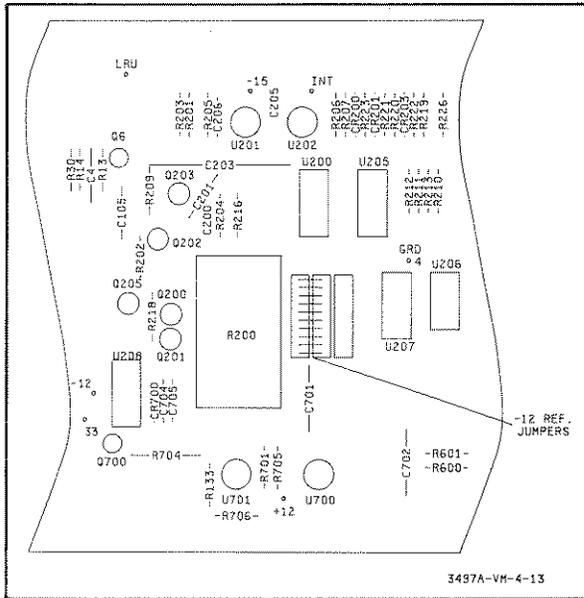
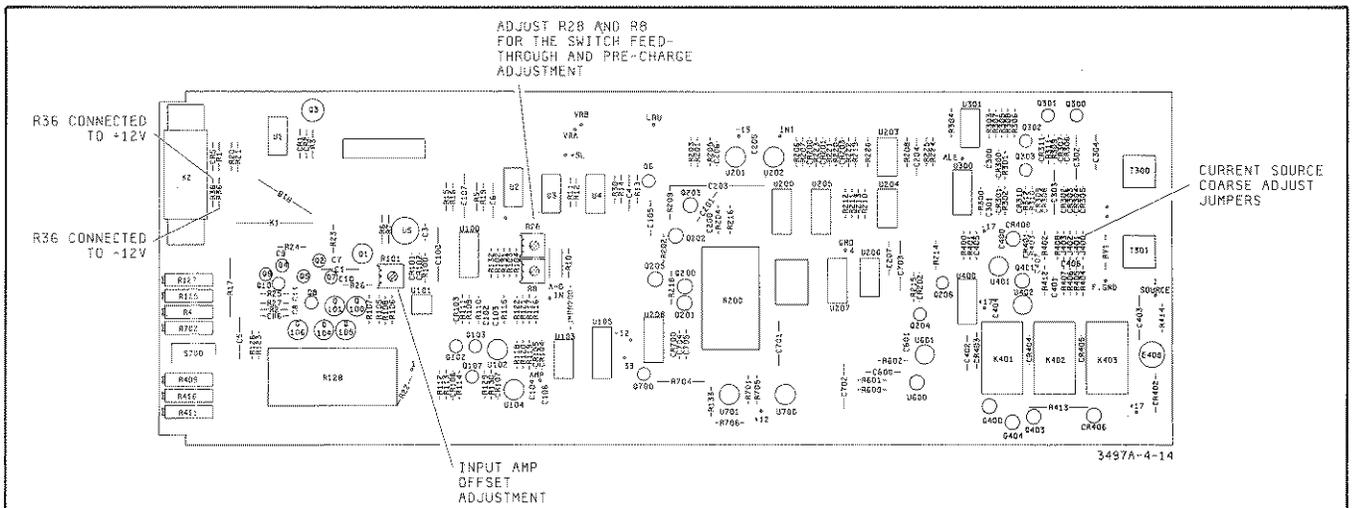

Figure 4-13. Reference Jumpers
Figure 4-14. Miscellaneous Voltmeter Option Adjustment Locations
- a. Locate the -12V Reference Jumpers (J700 to J707; see Figure 4-14). Place all jumpers to the left, as shown in Figure 4-13. Set switch S700 to position "6" and adjust pot R702 to its counter-clockwise position. (Refer to Figure 4-14 to determine the location of S700 and R702 on the voltmeter option board.)
- a. Refer to Figure 4-14 and locate R36. If there is no R36 mounted on the voltmeter board, continue with the next step. If R36 is mounted on the board, remove it. If a soldering iron was used to remove R36, give enough time for the circuitry to stabilize. Then continue with the next step.
1. If the offset is negative, connect resistor R36 to the -12V position, as shown in Figure 4-14.
2. If the offset is positive, connect resistor R36 to the +12V position, as shown in Figure 4-14.
- a. Refer to Figure 4-14 and adjust R28 (Pre-charge adjust) to the center of its rotation.
- d. Refer to Figure 4-14 and adjust R8 until the voltmeter reading is 0.00000V. If any noise is noted, adjust R8 until the noise is centered around the zero volts reading.
- b. Connect the test Digital Voltmeter between TP A-D IN (see Figure 4-14) and the LO COM terminal.
- c. Refer to Figure 4-14 and adjust R101 for a 0V ± 5 microvolt reading on the test voltmeter.
- a. Refer to Figure 4-14 and locate the four current source jumpers on the voltmeter board. Replace any jumpers that are missing.